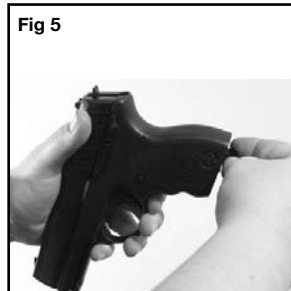

Fig 5
- With one hand hold the gun as shown (Fig. 5).